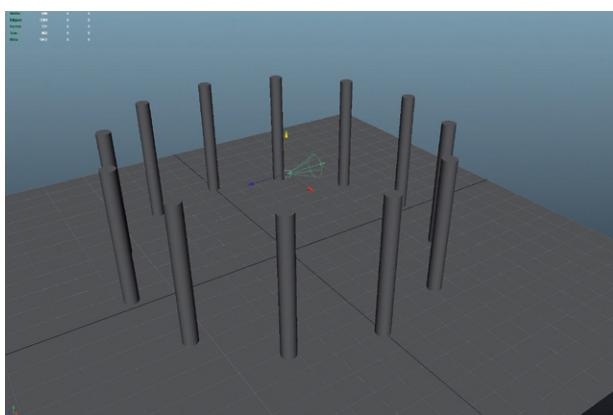

FIG 7.10 A Spot Light.
Step 9: Change the light's Type to Spot Light. Do this within the Attribute Editor (Fig. 7.10).